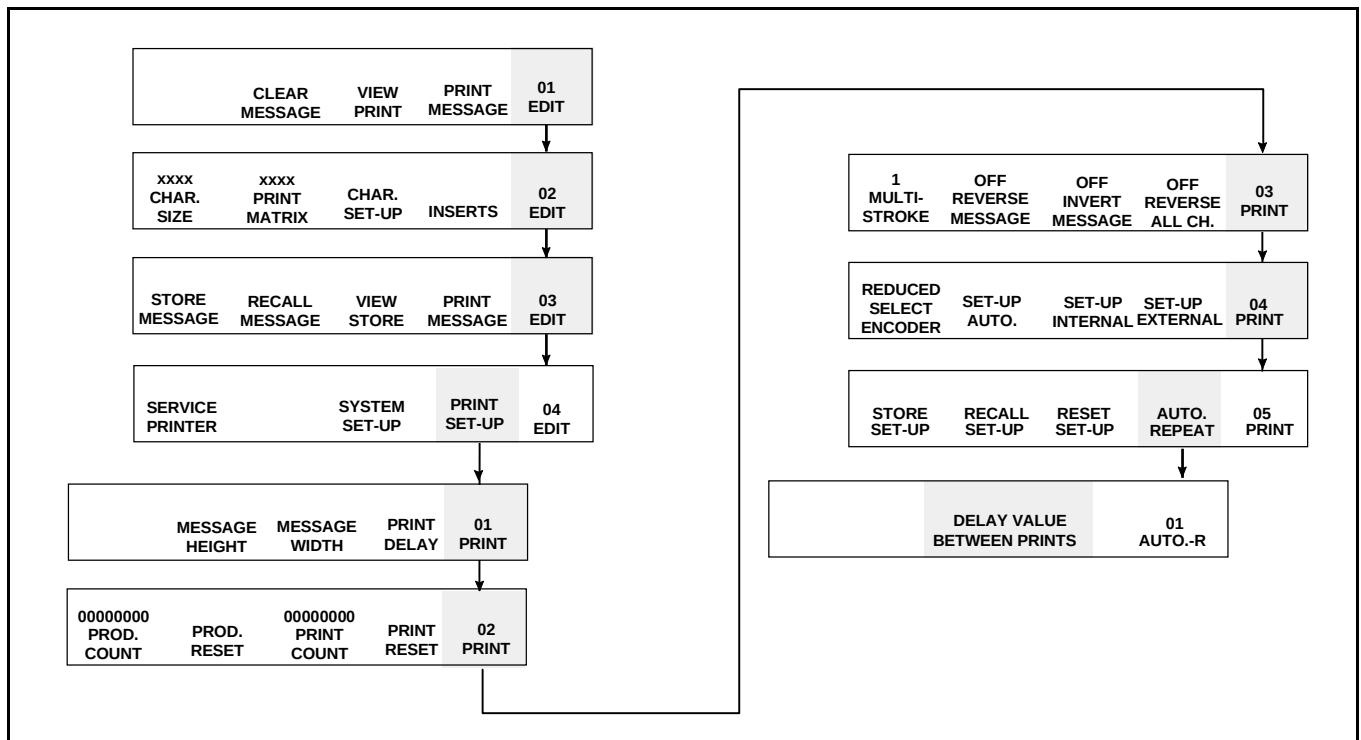

Figure 7-17. Accessing Frame <01 AUTO.-R> and Frame <01 A-SPACE>
1. Begin in Frame <05 PRINT>. Refer to Figure 7-17 on the previous page.